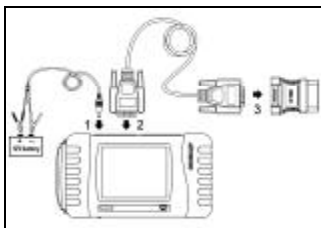

Fig.2.3
2. From vehicle battery. Clamp the two clips of battery cable on the positive and negative poles of battery and insert another end of the cable into the power port of **Star** main unit as shown in Fig.2.3.